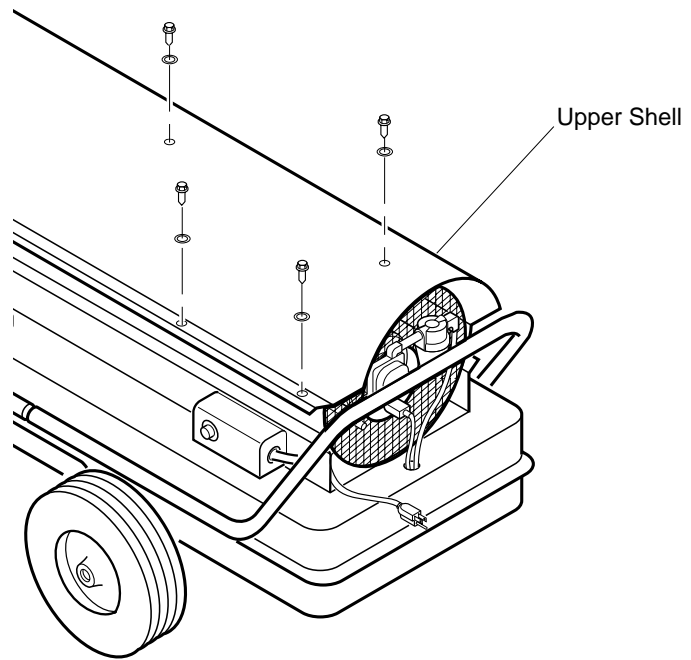

Figure 5 - Upper Shell Removal
1. Remove screws and lockwashers along each side and top of heater using 5/16" nut-driver. These screws attach upper and lower shells together (see Figure 5).